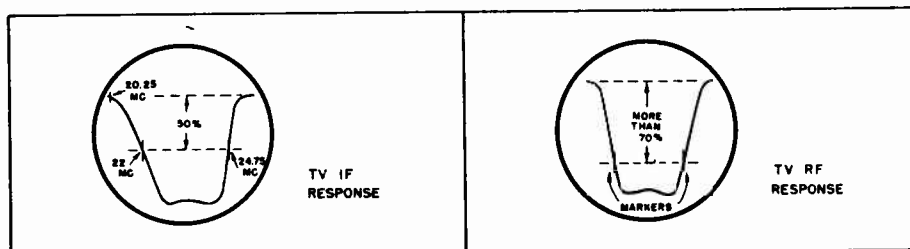

FIG. 5. RECOMMENDED RESPONSE CURVES.
13. Feed I-F Sweep, and observe response on 'scope. (See Fig. 5.) Use marker frequencies 20.25, 22 and 24.75 MC.
14. If response does not approximate that shown in Fig. 5, repeat steps 3 to 9, making sure that frequencies are precise, and that the Signal Generator output voltage is kept low. Continue with steps 10 to 13. A slight touch-up of individual slugs may be required to approximate the recommended curve of Fig. 5.
*NOTE: If 3v fixed bias is unavailable and zero fixed bias is used, set signal generator at [] bracketed frequencies values. Subsequently, marker frequencies of Fig. 5 are 21.9 and 24.6 MC, respectively.